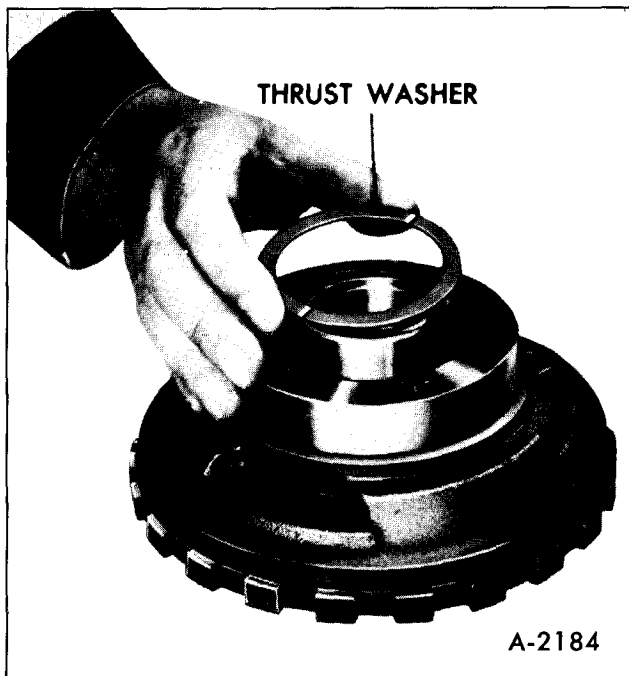

Figure 67—Center Support to Reaction Carrier Thrust Washer
8. Lubricate center support to reaction carrier thrust washer with petrolatum and install washer in recess of center support, Figure 67. Check to make sure sun gear thrust bearing race is on center support.